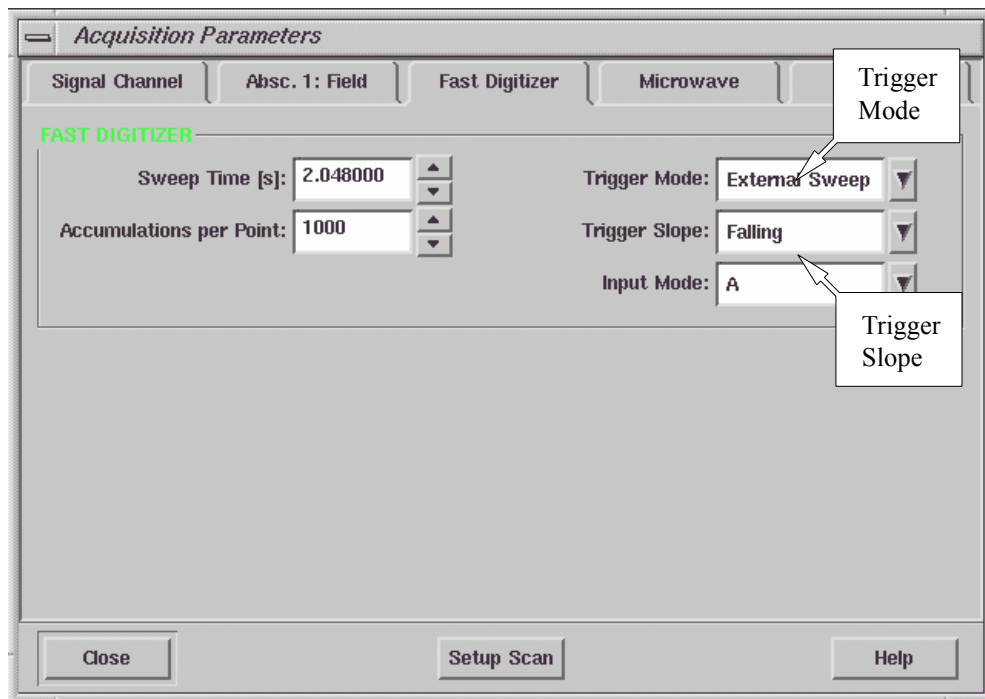

Figure 14-13 Defining the external trigger.
2. **Enable the External Trigger.** Open the Parameter dialog box and click the Fast Digitizer folder. Select External Sweep or External Point from the Trigger Mode drop-down list. (See Figure 14-13.)
3. **Define the Trigger Slope.** In the Fast Digitizer folder, select Rising or Falling from the Trigger Slope drop-down list. (See Figure 14-13.) Either the rising or falling edge can be used to trigger the acquisition.